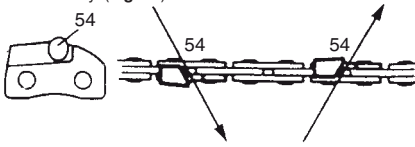

Fig. 46
File (54) cutter on one side of the chain from the inside out. File on forward stroke only. (Fig. 46)